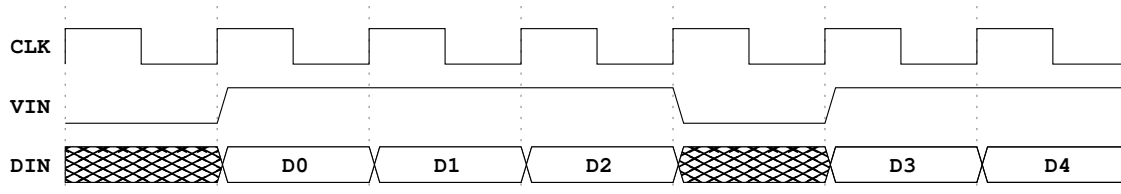

Figure 2
**Note:** the testbench must show that the circuit is working correctly even when  $V_{IN}$  goes to zero, as shown in Fig. 2.